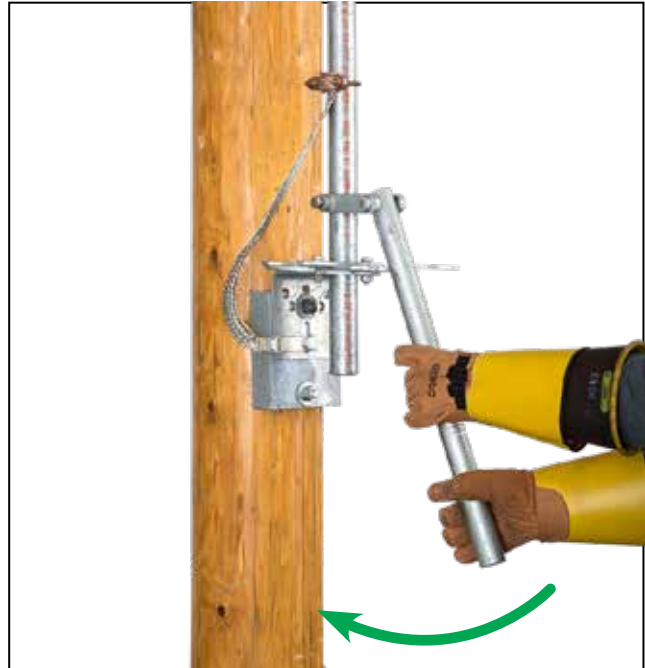

Figure 43. Swinging the operating handle.
STEP 35. Swing the handle *rapidly* to the fully **Open** or fully **Closed** position. See Figure 43.